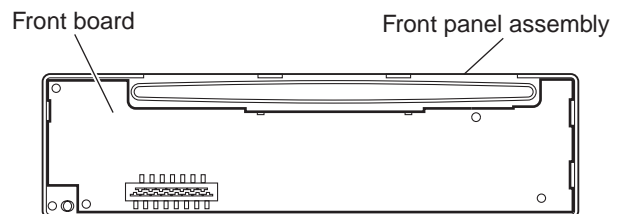

Fig.10
- (3) Release the joint **g** and take out the front board.(See Fig.10)
3.2.5 Removing the clamper assembly (See Figs.10 and 11)